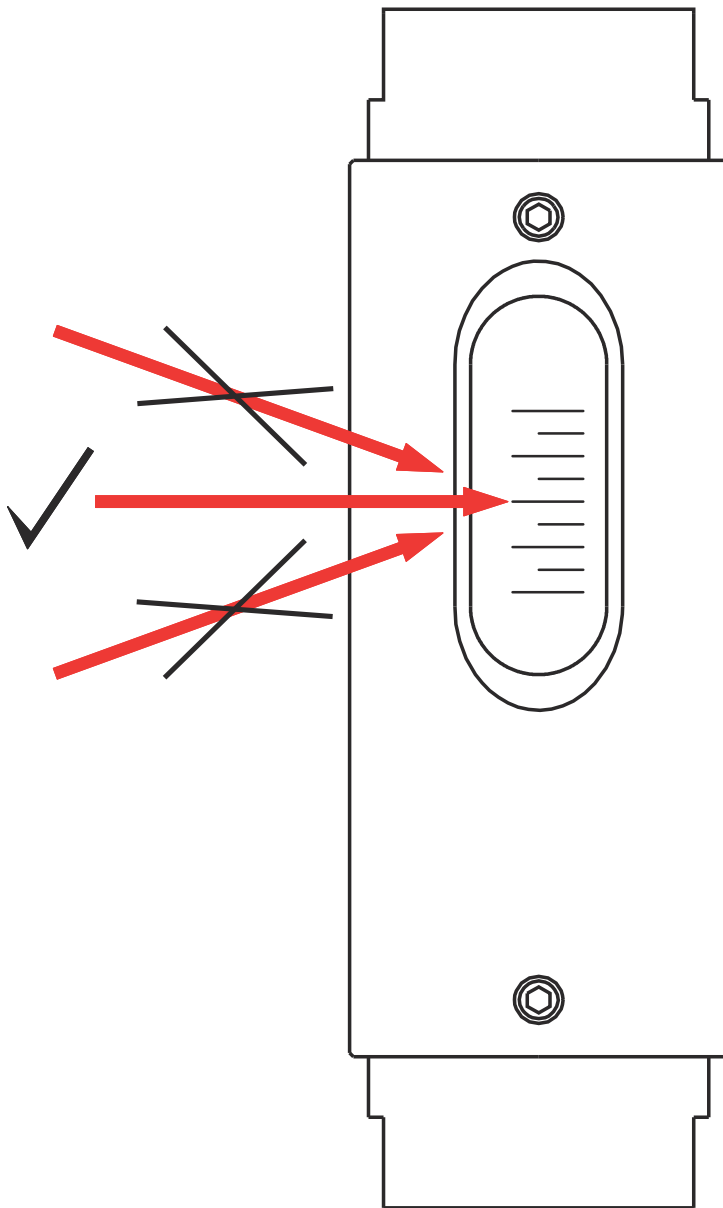

Fig. 34: Reading-off the measuring scale
2. ➤ To obtain greatest reading accuracy, read-off at eye level.(Fig. 34, middle arrow). The read-off value can be falsified by viewing at an angle